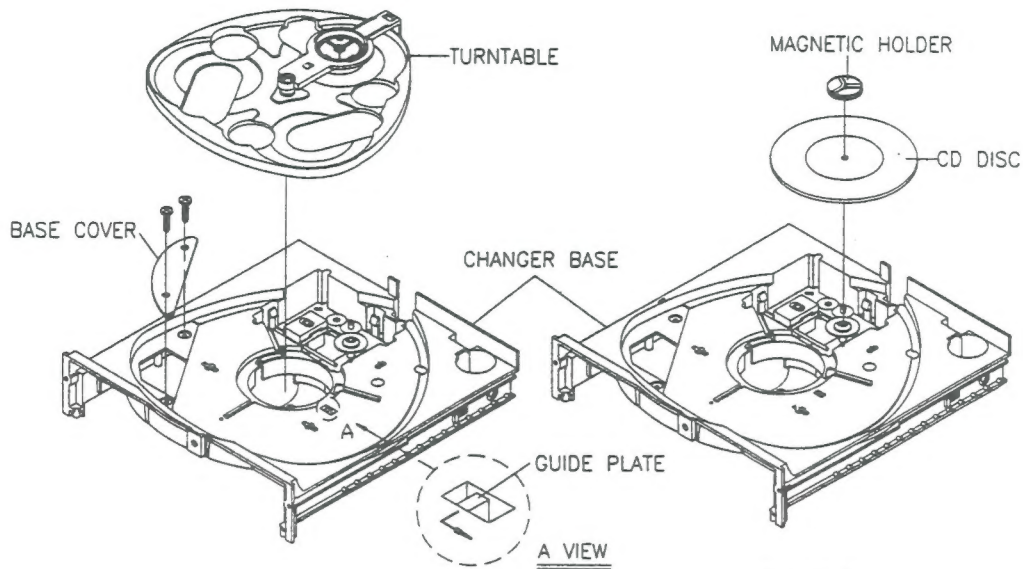

Figure 9
1. Remove the turntable by sliding the Guide Plate outward. (See Fig. 9)
2. Disassemble the Base Cover by removing 2 screws. (See Fig. 9)